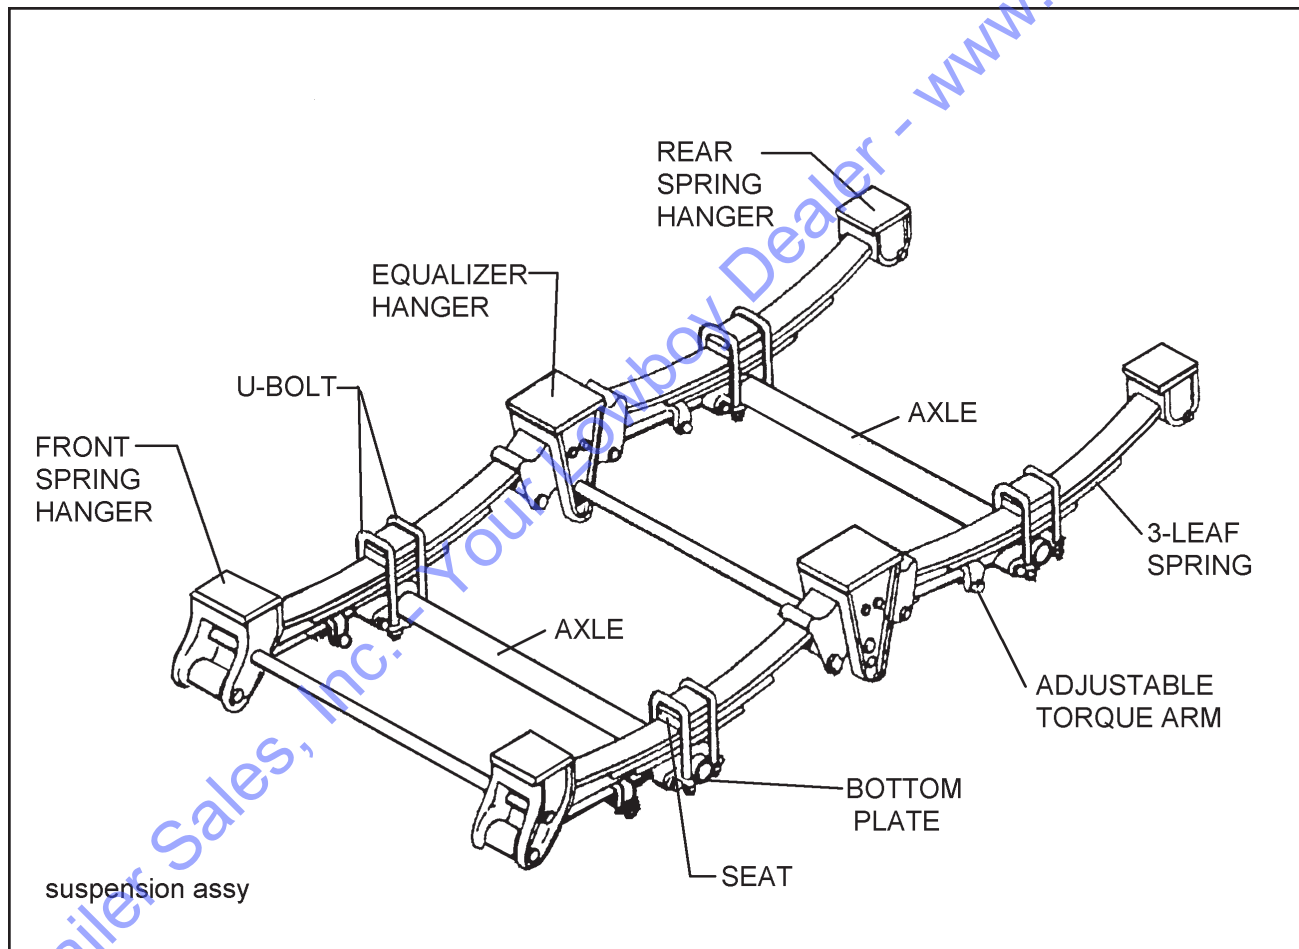

Figure 4-9 Spring Suspension System
- c. Replacing the equalizer bushings and the torque arm bushings on the spring suspension is a complex operation and should be left to trained service personnel. If the bushings need to be replaced, contact a Landoll authorized service center or the Landoll factory for servicing (See Figure 4-9).